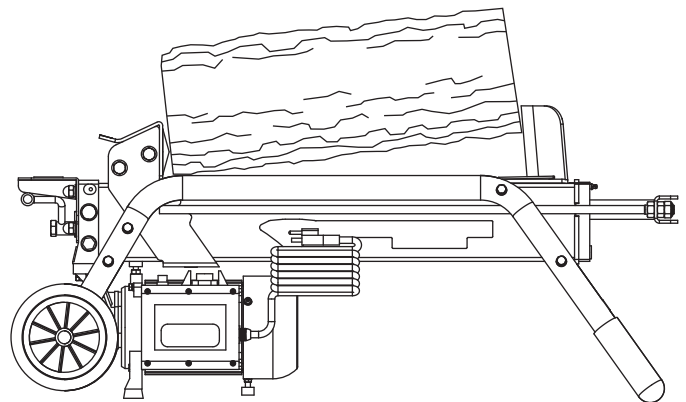

Figure 6
**ALWAYS SET LOGS FIRMLY ON THE LOG CRADLE AND WORK TABLE. MAKE SURE LOGS WILL NOT TWIST, ROCK OR SLIP WHILE BEING SPLIT. DO NOT FORCE THE WEDGE BY SPLITTING THE UPPER PART OF THE LOG. THIS WILL BREAK THE WEDGE OR DAMAGE THE MACHINE. (SEE FIGURE 6)**